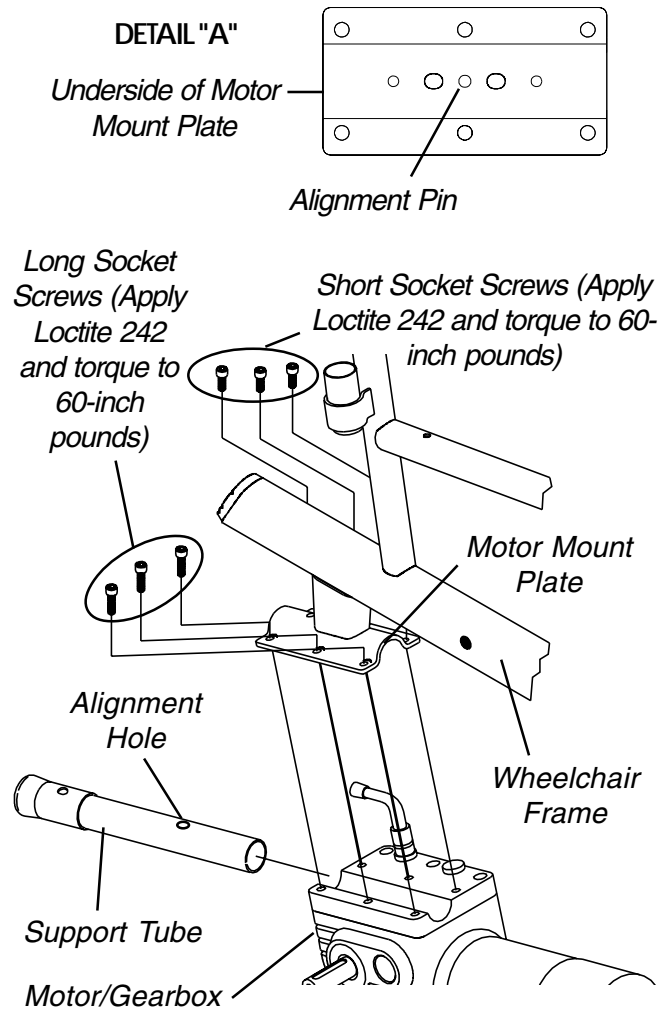

FIGURE 12 - REPLACING MOTOR/GEARBOX
REPLACING MOTOR/GEARBOX (FIGURE 12)
4. Remove the six (6) socket screws that secure the motor/gearbox and support tube to the wheelchair frame.
NOTE: The alignment pin is the longest of the three (3) pins and is located in the center of the wheelchair frame motor mount plate. Refer to DETAIL "A" in FIGURE 12.